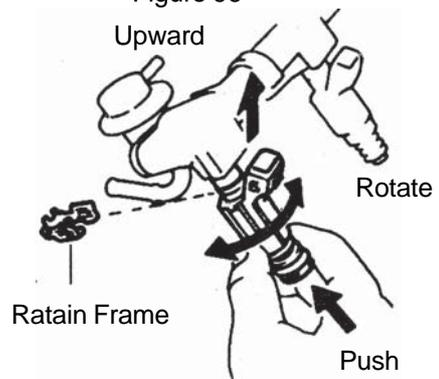

Figure 98
- (b) Install 4 injectors to feul delivery pipe by rotating them left and right. See (Figure 98).